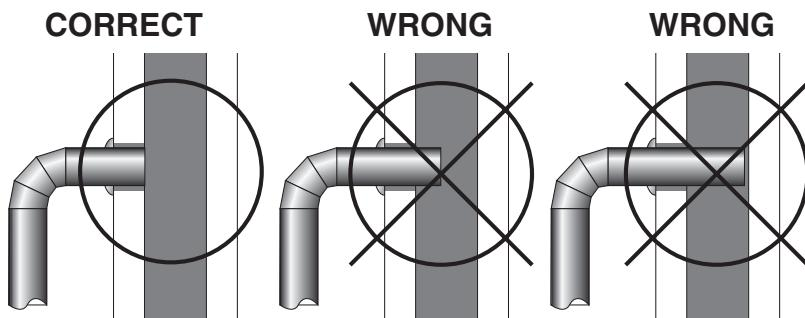

Fig. 4 – Stovepipe/Flue Connections
4. The pipe cannot extend into the chimney flue (figure 4).
5. Secure pipe/elbow sections with three (3) sheet metal screws at each joint to make the piping rigid.
6. It is recommended that no more than two (2) 90° bends be used in the stovepipe installation. The use of more than two 90° bends may decrease the amount of draw and possibly cause
2. Install a metal or fire clay (5/8" minimum thickness) thimble. Make sure the thimble is flush with the inner surface of the chimney liner and does not protrude into the flue (see figure 4 on page 6).
4. Install the stovepipe into the thimble as far as possible without extending past the flue lining (see figures 4 & 6 on pages 6 & 7).